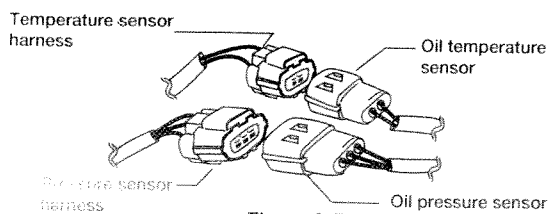

Figure 3-7
8. Connect the sensors with each of their own sensor harnesses. (Figure 3-7)